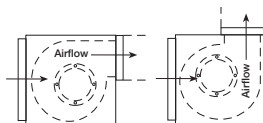

Figure 4
3. Check ductwork to see if the fan's discharge requires rotation from horizontal to vertical discharge, shown in Figure 4.